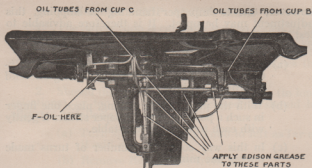

Fig. 7
- F (Fig. 7) Governor sleeve (2 or 3 drops).
- (e) Apply Edison Grease freely to those parts indicated in Fig. 7.